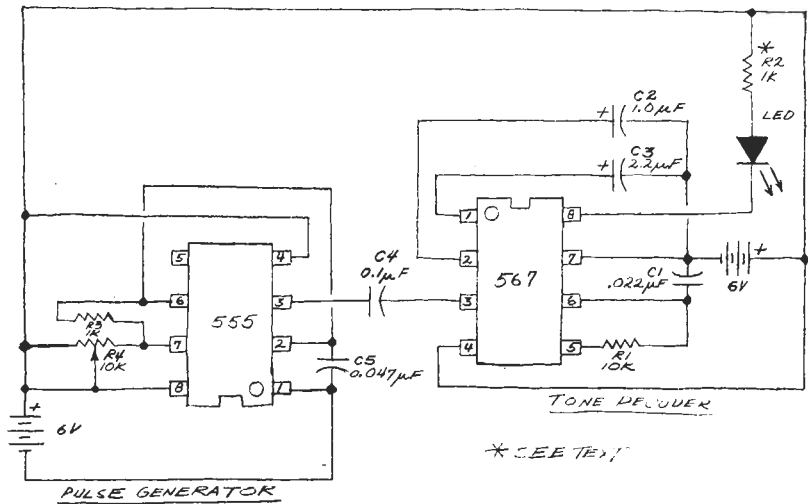
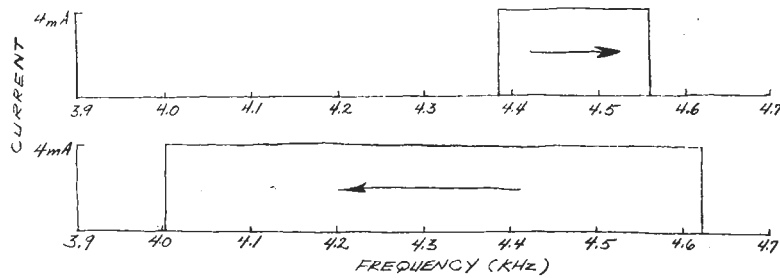

Fig. 2. Tone decoder demonstration circuit.
Fig. 3. Frequency response of circuit in Fig. 2. Arrows indicate positive and negative frequency changes.
**Experimenter's Circuit.** I think the best way for you to relate to the 567 PLL is to try it in an actual circuit, such as shown in Fig. 2. This circuit is a straightforward tone decoder with a built-in variable-frequency oscillator made from a single 555 timer.
With the component values given in Fig. 2,  $f_i$  should be 5000 Hz ( $1.1/10,000 \times 0.022 \times 10^{-6}$ ). The test circuit, however, gave an  $f_i$  of 4480 Hz. I measured  $R1$  with a digital multimeter and found its actual resistance to be 10,320 ohms. This new value gave an  $f_i$  of 4845 Hz, which is within 3% of the predicted frequency, and any error is traceable to the tolerance of  $C1$ .
showing the response of the circuit in Fig. 2 in the acceptance bandwidth region is shown in Fig. 3. The graph shows the input frequency from the 555 versus the output current through the LED. Note that the bandwidth is fairly wide when the input frequency goes high to low and vice versa.
**Other Applications.** After you have experimented with the 567 using the basic circuit in Fig. 2, you will probably think of lots of interesting applications. One fascinating possibility is a secret photoelectric lock activated by a tone-modulated LED. A phototransistor connected to the input of the 567 can be used to receive the signal from the LED, as shown in Fig. 4. This circuit has an optical range of a few centimeters without external lenses at either the LED or phototransistor. This is all the distance you need for most lock applications, but for more range
Whether checking out a potential application or just for fun, don't hesitate to experiment with the basic 567 circuit in Fig. 2. For best results, Signetics recommends that the resistance of R1 be between 200 and 20,000 ohms. Capacitor C2, the loop low-pass filter, should be selected from the Bandwidth versus Input Signal Amplitude graph given in both the National and Signetics data sheets on the 567.